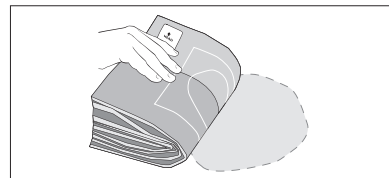

Figure 12
- Position fenestration over intended insertion site (refer to Figure 12).